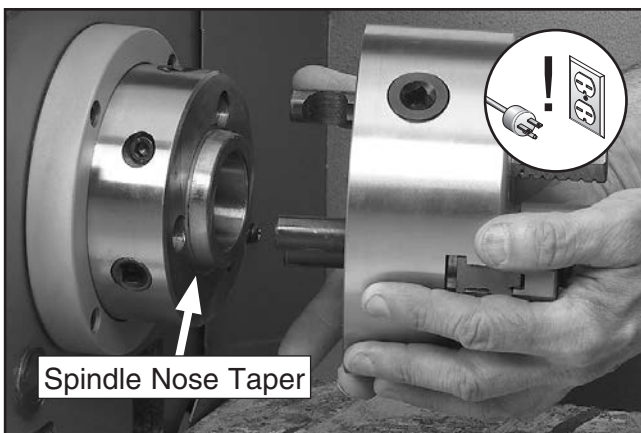

Figure 22. Installing and removing a typical camlock style chuck.
5. Use a rocking motion to carefully remove the chuck from the spindle (see **Figure 22**).